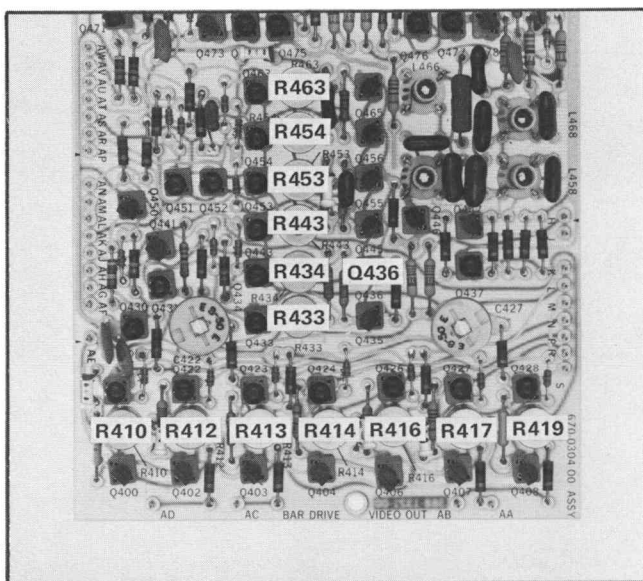

Fig. 5-26. Transistor and adjustment locations on the Bar Drive and Video Out board.
b. Remove Q436 (see Fig. 5-26). Check that the COLOR BAR Y switch is down.
d. ADJUST—R410 (see Fig. 5-26) until the two displays just meet.
h. ADJUST—R412 (see Fig. 5-26) until the two displays just meet.
l. ADJUST—R413 (see Fig. 5-26) for minimum modulation on the blanking level.
r. ADJUST—R416 (see Fig. 5-26) until the two displays just meet.
v. ADJUST—R417 (see Fig. 5-26) until the two displays just meet.
x. ADJUST—R419 (see Fig. 5-26) for minimum modulation on the blanking level.
n. ADJUST—U Burst Level control, R414, (see Fig. 5-26) until the top of the bottom burst display just meets the bottom of the top burst display.
i. ADJUST—R433 (see Fig. 5-26) until the setup level of the lower display just aligns with the blanking level of the upper display.
k. ADJUST—R463 (see Fig. 5-26) until the blue luminance level aligns with the blanking level.
o. ADJUST—R453 (see Fig. 5-26) until the red luminance level aligns with the blanking level.
s. ADJUST—R454 (see Fig. 5-26) until the green luminance level aligns with the blanking level.